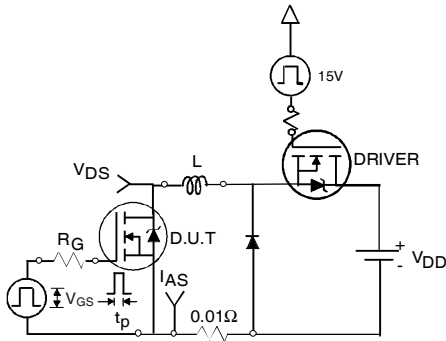

Fig 12a. Unclamped Inductive Test Circuit
- ③ $I_{SD} \leq 104A$, $di/dt \leq 240A/\mu s$, $V_{DD} \leq V_{(BR)DSS}$, $T_J \leq 175^\circ\text{C}$
- ④ Pulse width $\leq 400\mu s$; duty cycle $\leq 2\%$.
- ⑤ $C_{oss\ eff.}$ is a fixed capacitance that gives the same charging time as C_{oss} while V_{DS} is rising from 0 to 80% V_{DSS} .
- ⑥ Calculated continuous current based on maximum allowable junction temperature. Package limitation current is 75A.
- ⑦ Limited by T_{Jmax} , see Fig.12a, 12b, 15, 16 for typical repetitive avalanche performance.
- ⑧ This value determined from sample failure population Starting $T_J = 25^\circ\text{C}$, $L = 0.08\text{mH}$, $R_G = 25\Omega$, $I_{AS} = 104A$.
- ⑨ When mounted on 1" square PCB (FR-4 or G-10 Material). For recommended footprint and soldering techniques refer to application note #AN-994.
3. Equation below based on circuit and waveforms shown in Figures 12a, 12b.